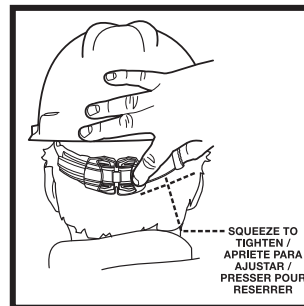

Figure 8
- For 1-TOUCH suspensions squeeze the finger tabs on each strap together to tighten (Figure 8).